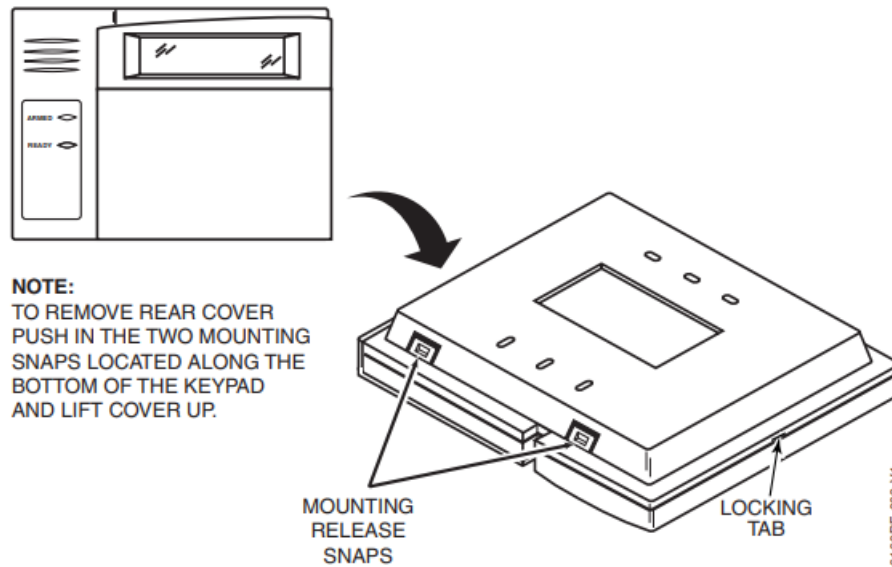

Figure 1. Removing the Case Back
1. Push the two case release snaps at the bottom of the keypad with the blade of a medium screwdriver (this will push in the release snap), then pull that side of the case back away. Insert the screwdriver in the side of the keypad (between the front and back case) and gently twist to release the side locking tab. Repeat for the other side. Refer to Figure 1 for the location of the case back release snaps and locking tabs.